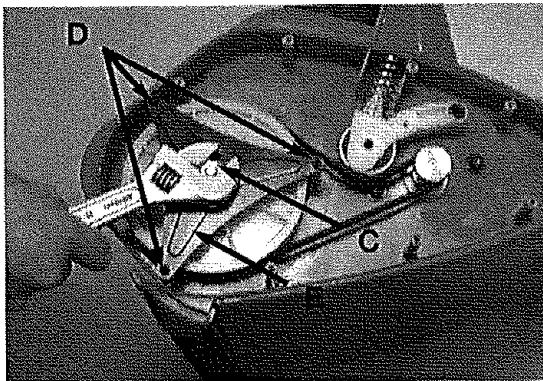

Fig. 8
2. Remove the flange lock nut (C) and remove the 3 screws (D) from the belt case cover (E) using a #T20 Torx bit or flat blade screwdriver. (Fig. 8)
4. Loop the new belt around the drive pulley and driven pulley (Fig. 8). Pull the belt tensioner (Idler arm) away from the drive pulley to install the belt around the drive pulley.